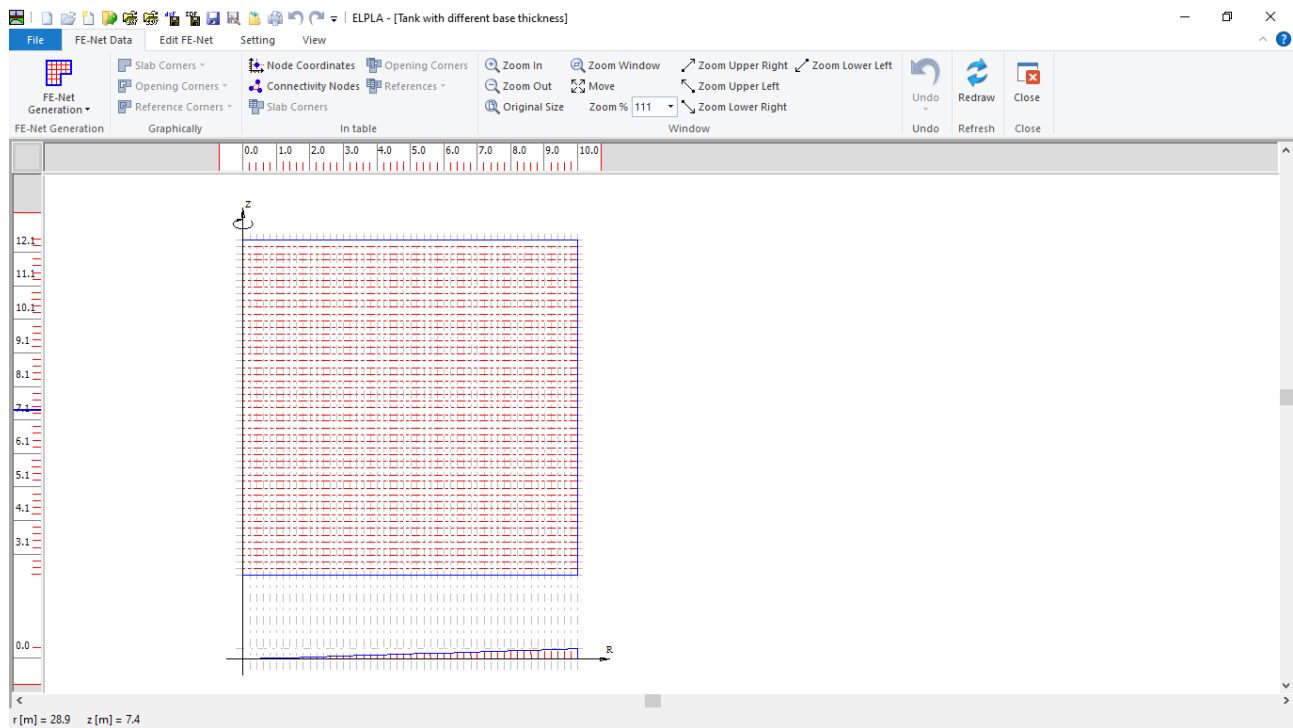

Figure 9.11 Generated FE-Net
Click "Finish" button, the FE-Net of the tank wall and a sector from the base appears in Figure 9.11.
- Choose "Save" command from "File" menu in Figure 9.11 to save the data of the FE-Net
- Choose "Close" command from "File" menu in Figure 9.11 to close the "FE-Net" window and return to *ELPLA* main window